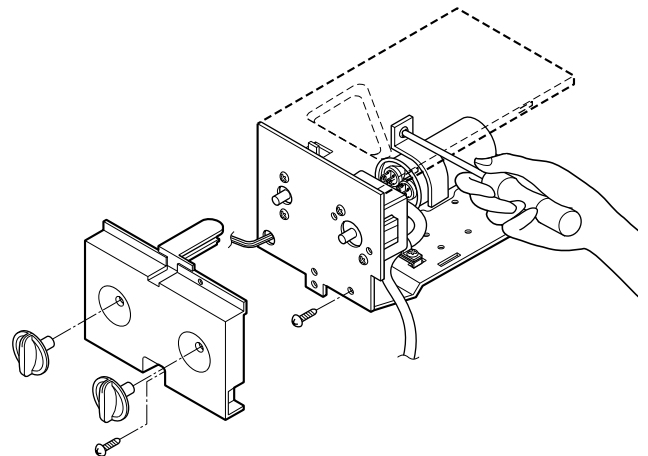

Figure 10
7. Re-install the components by referring to the removal procedure, above. (See Figure 10)